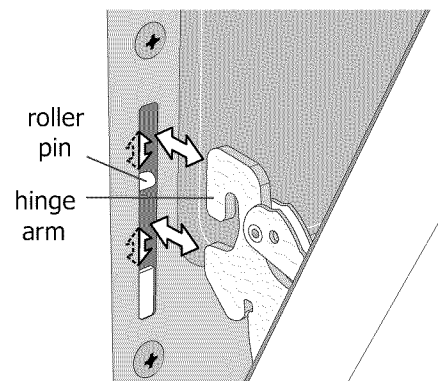

Fig. 4
Refer to Figs. 2 & 3 for correct and incorrect burner cap placement. Once in place, you may check the fit by gently sliding the burner cap from side to side (Fig. 4) to be sure it is centered and firmly seated. When the burner cap lip makes contact inside the center of the burner head you will be able to hear the burner cap click. Please note that the burner cap should **NOT** move off the center of the burner head when sliding from side to side. Check and be sure that all **oval** style (some models) burner caps are correctly in place on oval burner heads.
5. With the oven door in the broil stop position, lift the oven door hinge arms over the roller pins located on each side of the oven frame (See Fig. 4).
2. Holding the oven door at the same angle as the removal position, seat the hook of the hinge arm over the roller pins located on each side of the oven door frame (See Fig. 4). The hook of the hinge arms must be fully seated onto the roller pins.